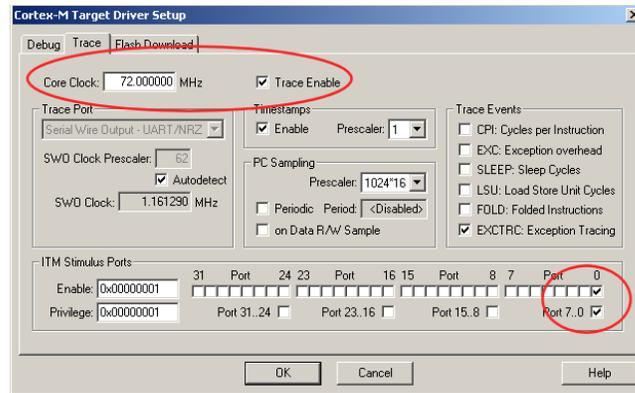

Figure 37
- 6) Select the SWJ box and set Port: to SW as shown. This must not be set to JTAG. SWV operates only through the Serial Wire debug port (SW). Max clock @ 1 MHz is correct. Up to 10 MHz will work.
- 7) Select the Trace tab and Figure 37 opens up to configure the SWV trace: